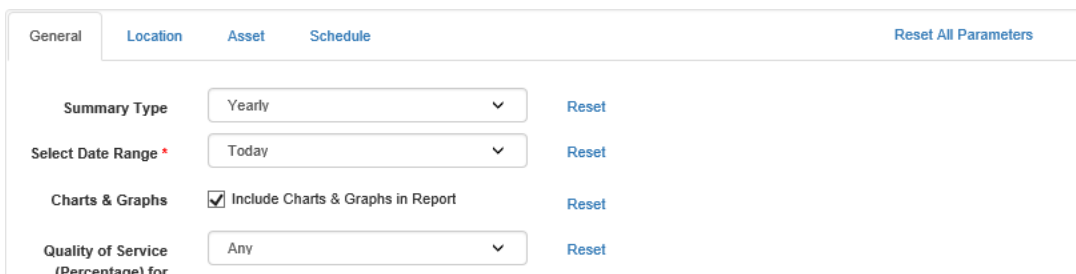

FIG. 62 Report Properties Window
3. Edit the settings in the *Report Properties Window* tabs to customize the report to your needs (FIG. 62).